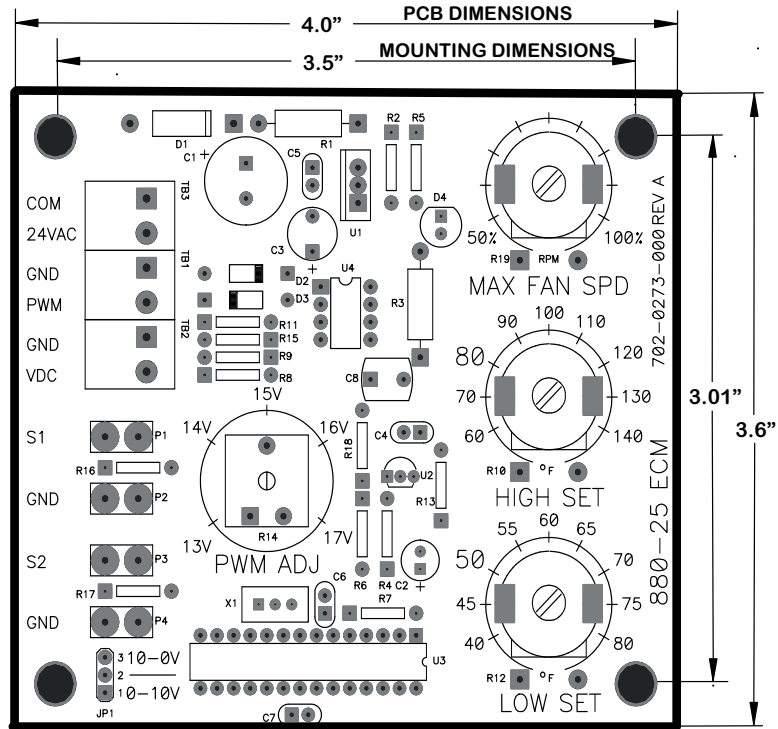

Figure 2 - 880-25 Mounting Templates (not to scale)
- Dimensions and mounting hole patterns for the control are included in Figure 2, 880-25 Mounting Template.